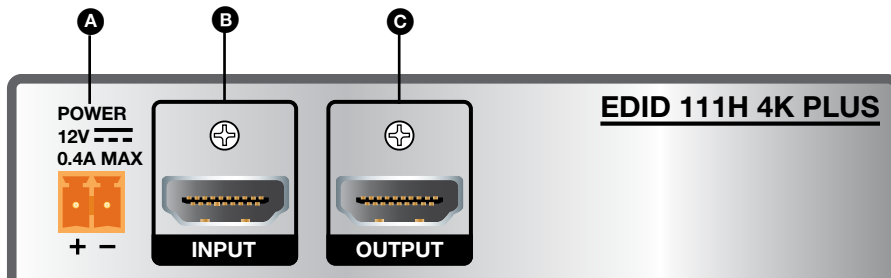

Figure 1. EDID 111H 4K Plus Rear Panel
2. Connect an HDMI cable from the source to the EDID 111H 4K PLUS Input (see figure 1, **B**).
3. Connect an HDMI cable from the EDID 111H 4K PLUS Output (see figure 1, **C**) to the display or distribution system.
5. Connect the power supply to the EDID 111H 4K PLUS (see figure 1, **A**).